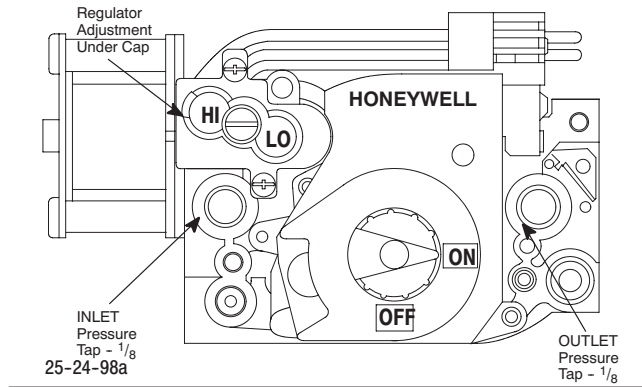

Fig. 51 - Typical Gas Control Valve (Honeywell)
1. With gas **OFF**, connect manometer to manifold pressure tap on the outlet of gas control valve. See Fig. 51 Use a manometer with a 0 to 12 inches of water column range.
3. Remove manifold pressure adjustment screw cover on furnace gas control valve. Turn adjusting screw counterclockwise to decrease the manifold pressure and clockwise to increase pressure. See Fig. 51